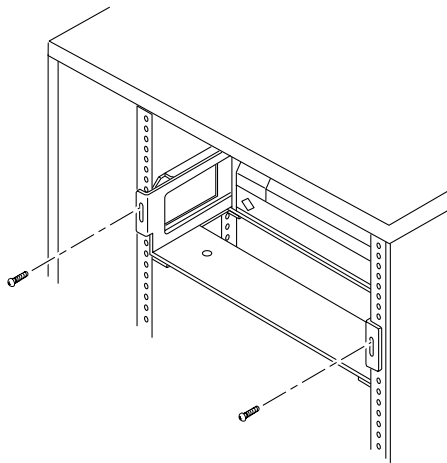

FIGURE 7-22 Removing the Screws That Secure the Baseplate to the Side Brackets
4. **Remove the locking screws from the front of the disk array (FIGURE 7-22).**